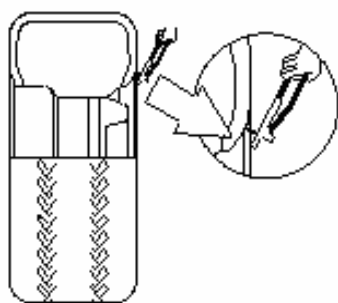

Fig. 10
- Ø Remove any counterweight and other foreign body from the wheel before mounting it avoiding any danger. When remove the counterweight, the demounting/mounting pliers supplied with the machine should be used (Fig. 10).